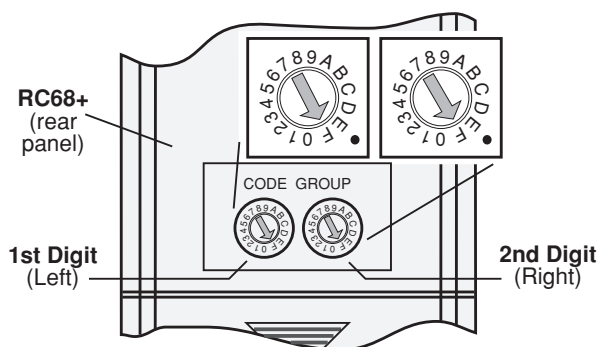

FIG. 5 Switches set to **FF** for Code Group changes. Refer to step 2.
- Using a small blade screwdriver, rotate each of the two Code Group Setting Switches on the **rear** of the RC68+ to the **F** position (**FF**). See **Fig. 5**.